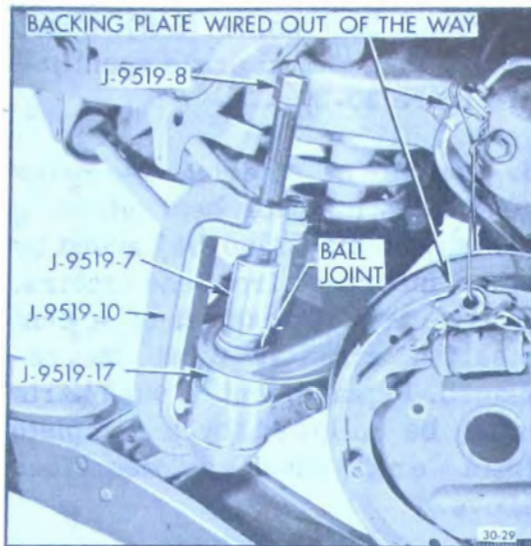

Figure 30-32—Lower Ball Joint Remover in Place
6. Install lower ball joint remover and installer as shown in Figure 30-32.